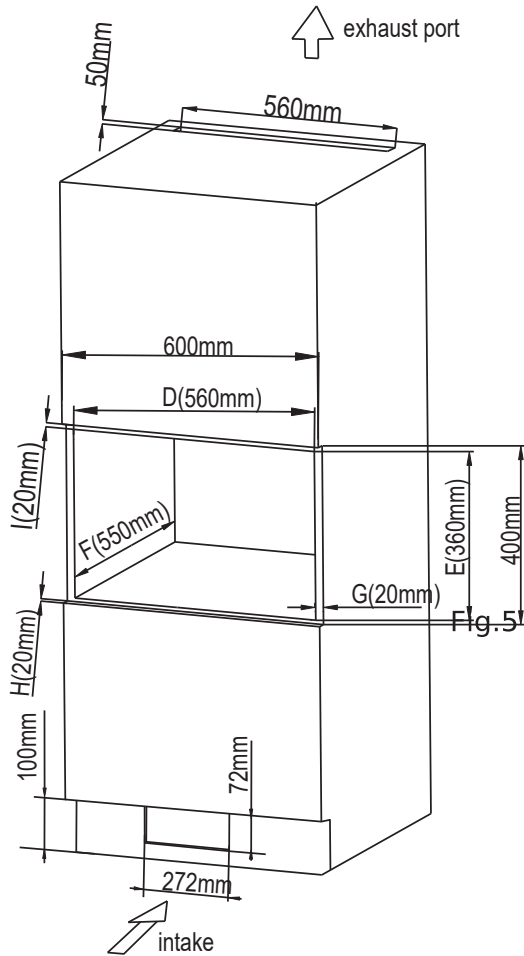

Fig.5
Opening size: (D)560±2 x (E)360±2 x (F)550±2 (mm) as shown in Fig.5 “D”,“E”,“F”.